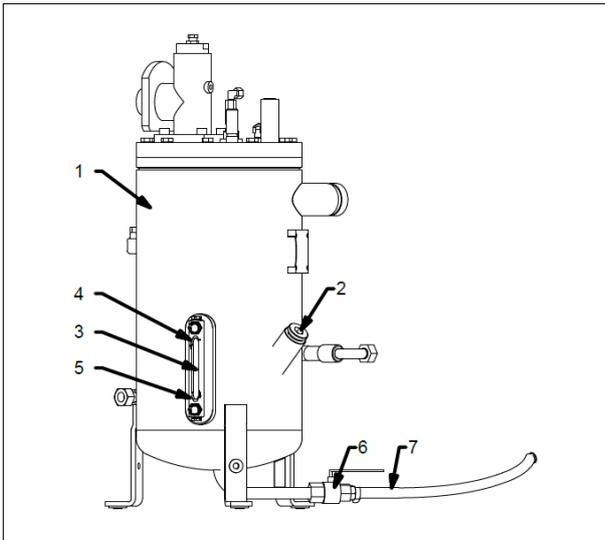

Fig. 18
- Slowly open the oil screw plug (-2- Fig. 18) to relieve the screw compressor of any residual pressure in the system
- Open the oil drain (-6- Fig. 18) from the pressure reservoir
- Drain the oil at operating temperature through the drain hose (-7- Fig. 18)
- Fill with oil up to the mark "maximum oil level" (-4- Fig. 18) (approx. 4 US-Gal.)
- The oil level must lie between the "maximum oil level" (-4- Fig. 18) and "minimum oil level" (-5- Fig. 18).